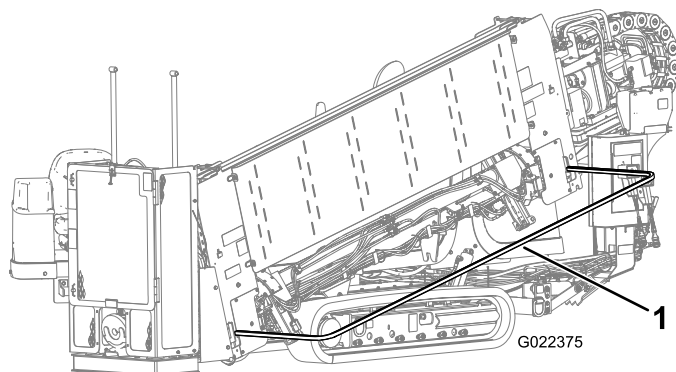

Figure 78
4. Lower the pedestrian safety bar and secure it in place (Figure 78).